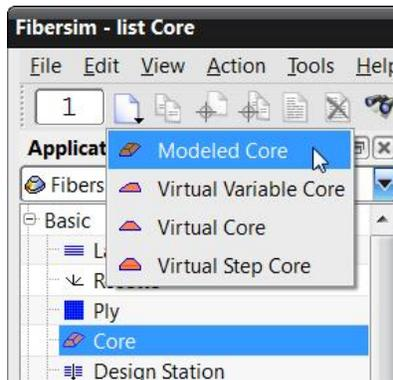

Figure 7–28
5. Enter the following parameters as shown in Figure 7–29: